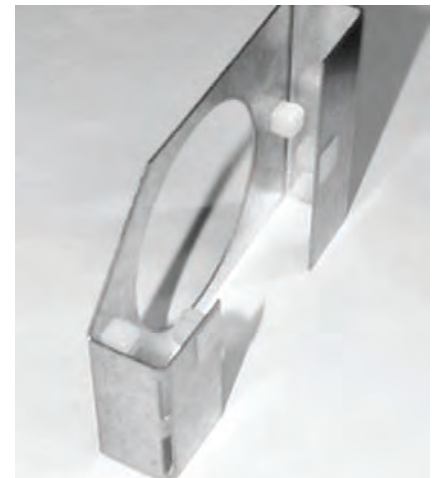

Figure 14
- D. Insert white plastic grommets into square holes in mounting bracket (see figure 14).